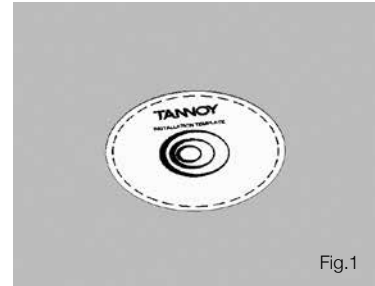

Fig.1
1. Remove the ceiling tile from its frame and place it on a flat surface. Mark the cut-out area on the ceiling tile by tracing around the template provided. (Fig.1)
1. Mark the cut-out area on the ceiling by tracing around the template provided. (Fig.1)
1. Nail or screw the plaster ring to the joists. (Fig.1)
1. Open the wiring cover at the back of the speaker can to access the Euro-type connector plug and socket. (Fig.1)